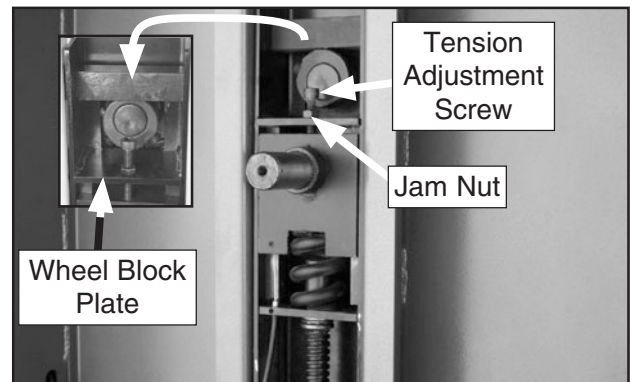

Figure 89. Example of quick release tension lever adjustment screw.
5. Thread the tension adjustment screw (**Figure 89**) down until it contacts the wheel block plate, then back it off 1-2 turns.